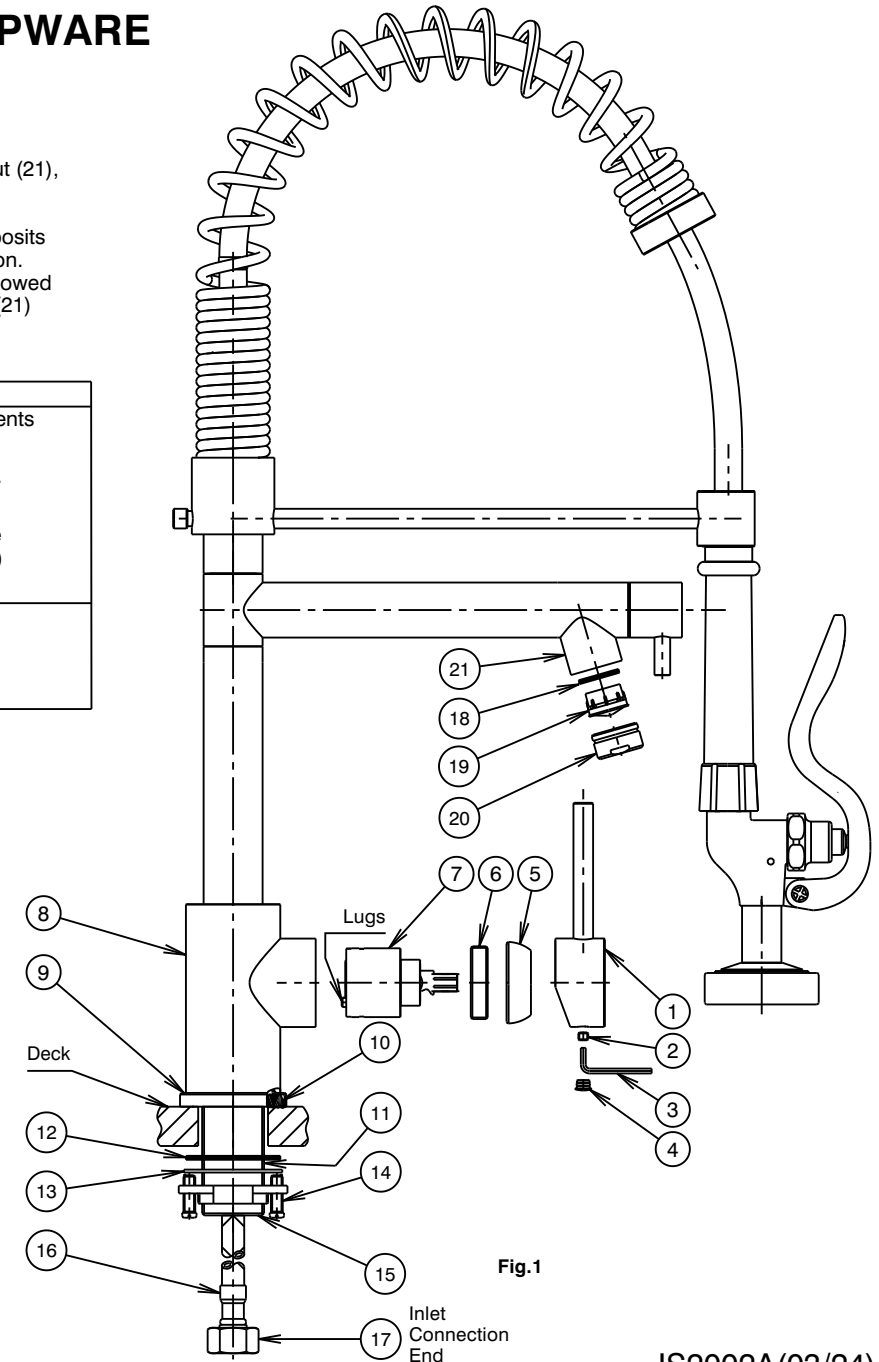

Fig.1
1. Ensure seal (10) is fitted into underside of base ring (9).
2. Insert the inlet connection end (17) of each flexible tail (16) through the hole in the deck. Insert threaded tube (11) of mixer into deck hole, locate mixer as required, fit metal washer (13) together with flat seal (12) over threaded tube (11) of mixer as shown in **Fig. 1**. Screw clamp ring (15) onto threaded tube until it contacts washer (13) & the flat seal (12) has contacted the underside of the deck. Tighten two screws (14) equally until mixer assembly is clamped firmly to the deck. **DO NOT OVERTIGHTEN.**
3. Flexible Tail Inlet Connections: Connect the flexible tails (16) to the hot and cold isolating stop taps, hand tighten the connecting nut (17) until rubber cone contacts the sealing face of the connection end, then tighten a further one turn to provide a watertight joint.